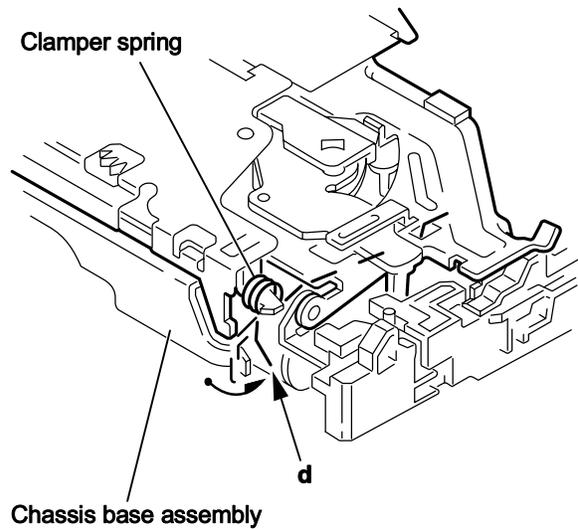

Fig.7
- Release the part **d** of the clamber spring from the bending part of the chassis base assembly. (See Fig.7.)
- Move the part **d** of the clamber spring to the outside of the bending part of the chassis base assembly. (See Fig.7.)